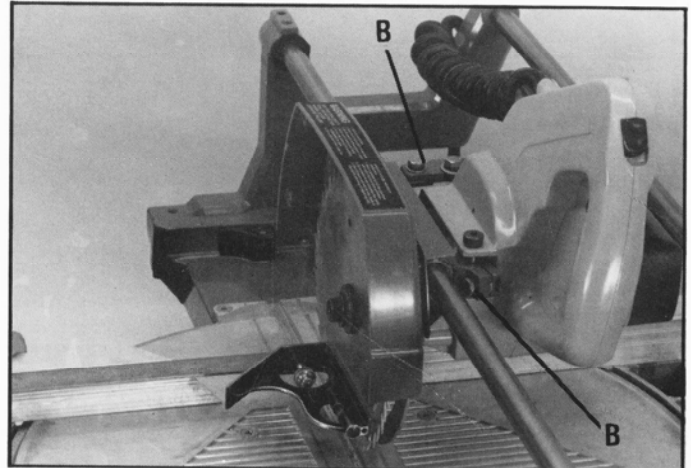

Fig. 38
4. If an adjustment is necessary, loosen two screws (B) Fig. 38, and shift motor and blade until the blade is at 90 degrees to the fence. Then tighten two screws (B).